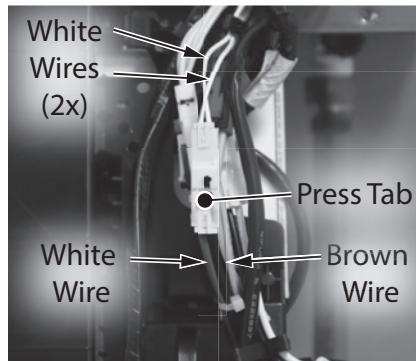

Figure 39 - Disconnect thermostat wiring
6 With control board panel lowered, locate the freeze protection thermostat wire connection (white) as shown in Figure 39. Press tab on connector and disconnect wires. Wires leading to control board are white and brown. Wires leading to thermostat are both white.
- 10** Connect freeze protection thermostat to wiring cluster located at the control board panel as shown in Figure 39. Confirm wiring is snug inside plastic organizer.